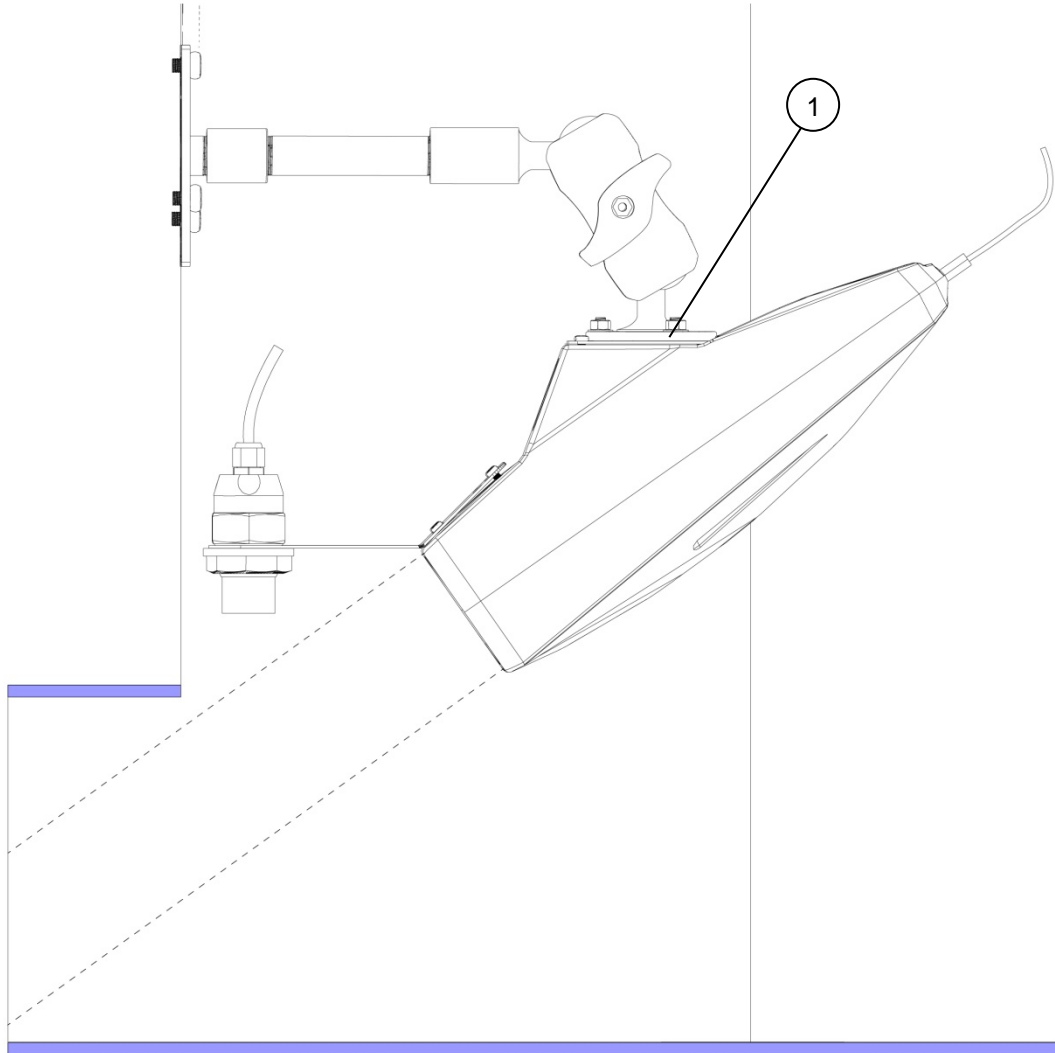

Figure 13: Horizontal alignment of the RAVEN-EYE® sensor
1. Use a bubble level and position it on the horizontal platform of the RAVEN-EYE® (see point 1 on Figure 13).